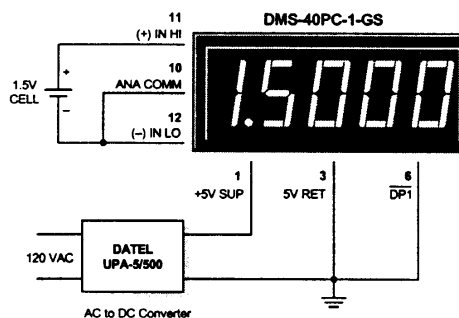

Figure 5. Floating Input Measurements
4. Floating Signal Source Measurements: A floating input is a signal that, before it is applied to the DMS-40PC's inputs, has no galvanic connection (direct current path) to the meter or the meter's power supply. The circuit shown in Figure 5 illustrates the necessary connections for measuring floating inputs. The 1.5V battery represents a true floating input signal since it initially has no connection whatsoever in common with the meter. Real-world floating inputs typically originate from power supplies which are transformer isolated from the DMS-40PC's +5V supply.
As the timing diagram in Figure 5 indicates, 100Hz is the optimum display scan rate when the BCD outputs are used to drive external LED displays. Faster scan rates, while permissible, are not necessary. Slower scanning, however, may result in noticeable "flickering" of the display. Common anode LED's, combined with a 74LS247 BCD to seven-segment decoder, is the simplest way of implementing an external display. A seventy-five